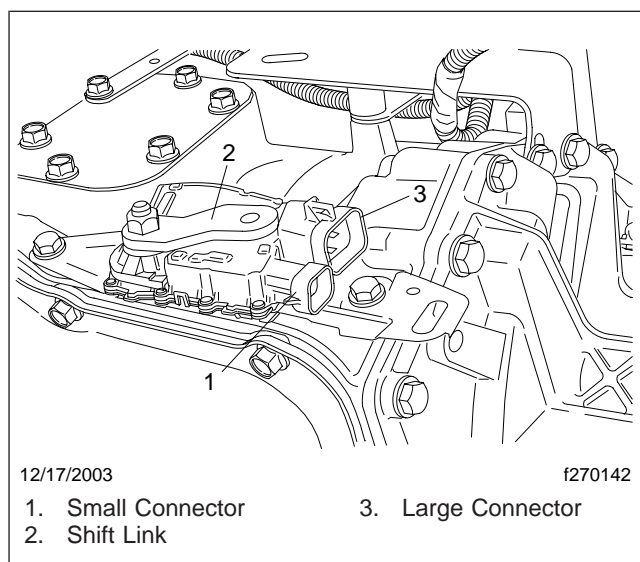

Fig. 8, Shift/Backup Connectors
- 8.3 Disconnect the double shift/back-up connector on the left-hand side of the gear box next to the shift link. See **Fig. 8**.